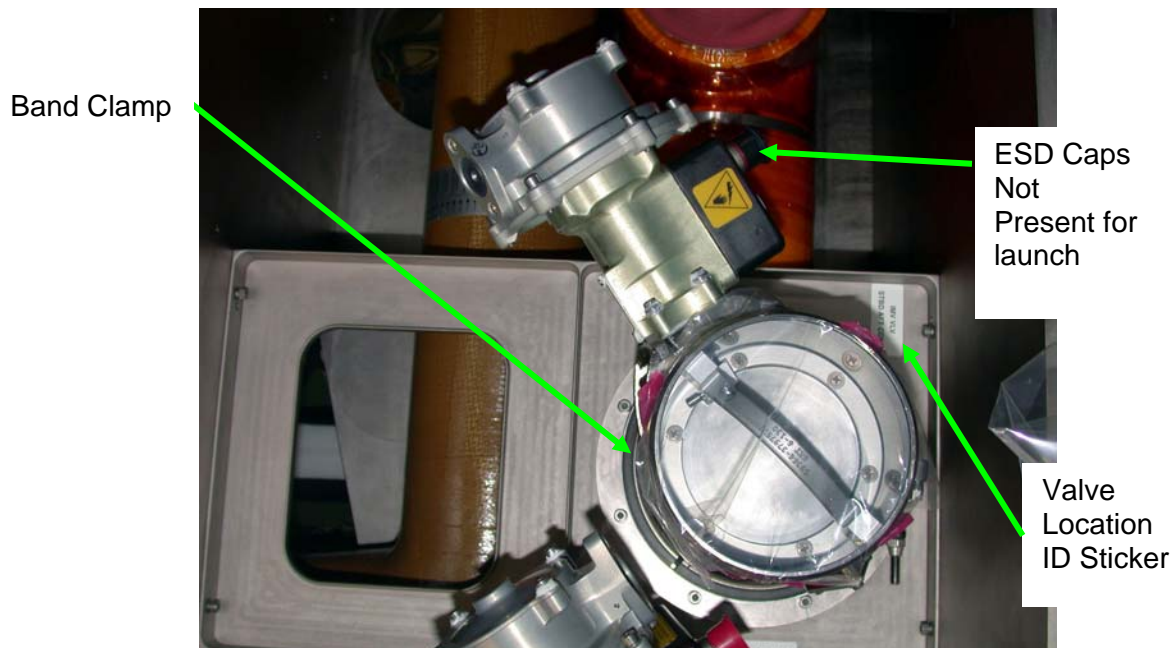

Figure 10.- IMV Valve Aft Starboard Cone Stowed Location (NOD2S3-01).
- 6.4 Remove IMV Valve and V-Band Clamp from stowed location NOD2S3-01 (Ratchet, 1/4" Drive, 7/16" Deep Socket, 1/4" Drive or 1/2" Deep Socket, 1/4" Drive). Refer to Table 1. Refer to Figure 10.